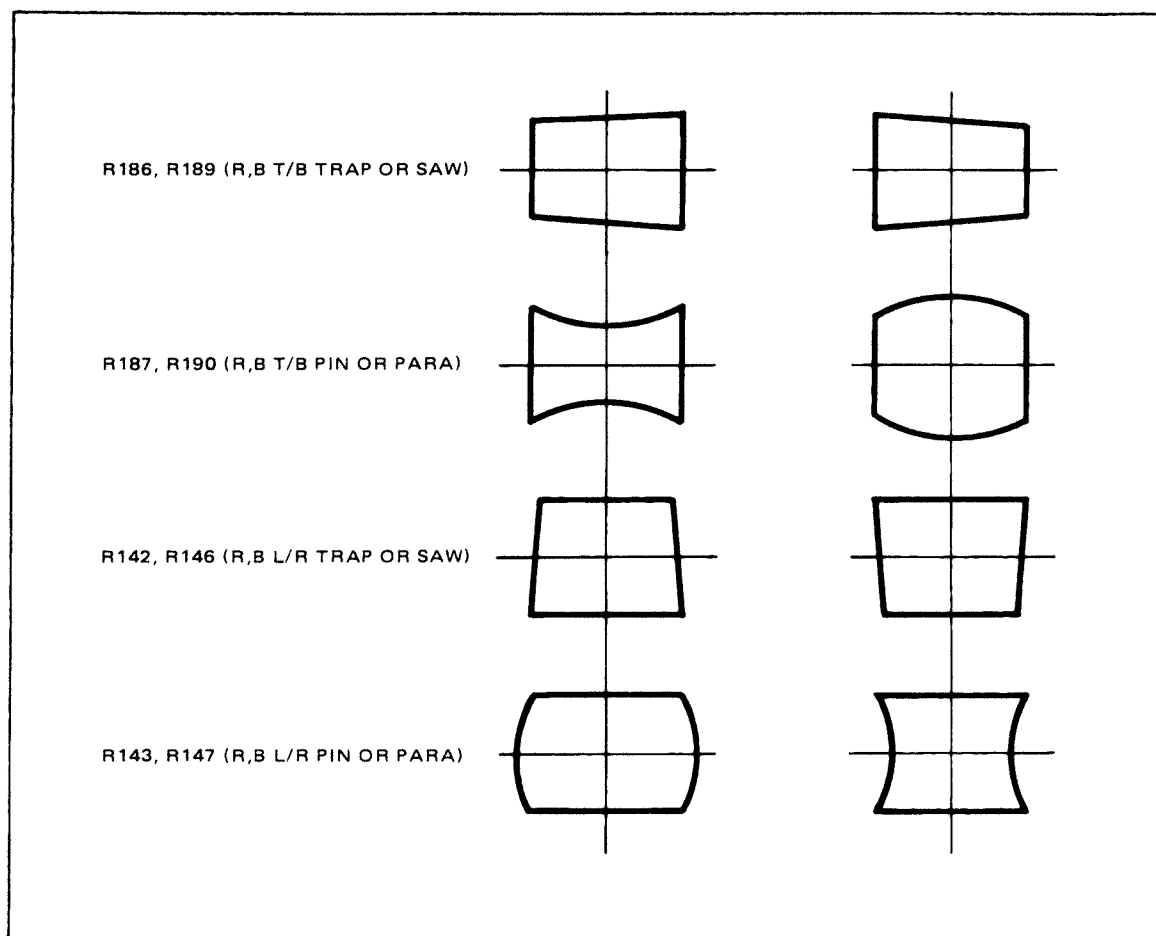

Figure 5-38. Corner Registration Controls
It is advisable to initially set corner registration potentiometers to their mechanical centers. See Figure 5-38.
- STEP 2** TRAP (trapezoid) and PIN (pincushion) controls change the raster as shown in Figure 5-38. Adjust R186 (R T/B TRAP) and R187 (R T/B PIN), R142 (R L/R TRAP) and R143 (R L/R PIN) until the amount of corner distortion is reduced. If necessary, readjust overall registration according to paragraph 5-56.